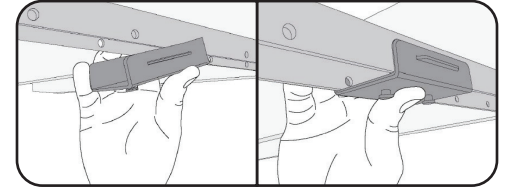

fig 3.3
3. Clip the universal mounting bracket, included with the Power Adapter, onto the Smart Track. The nubs should snap into place. (fig 3.3)